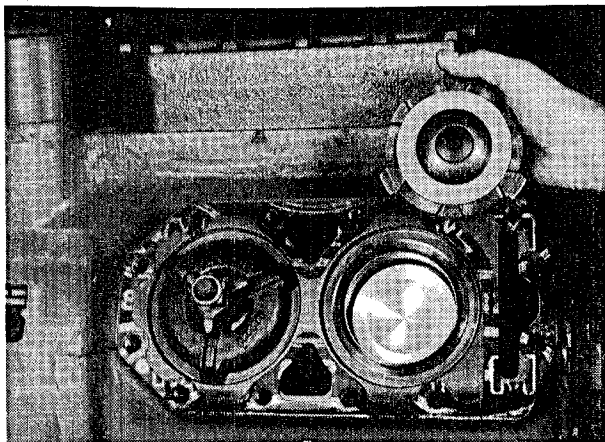

Figure 4
2. Lift discharge valve cage assembly off the cylinder (Figure 4).